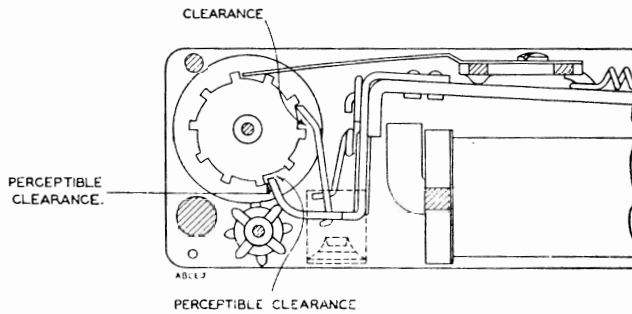

FIG. 6.—ADJUSTMENT OF ARMATURE BACK-STOP AND PAWL FORWARD STOP
- (a) between the tip of the pawl forward stop and the face of the ratchet notch (see Fig. 6) ;
- (b) between the lower face of the pawl forward stop, and the inner face of the ratchet tooth (see Fig. 6).
clearance between the top of the lower ratchet tooth and the pawl (see Fig. 6).